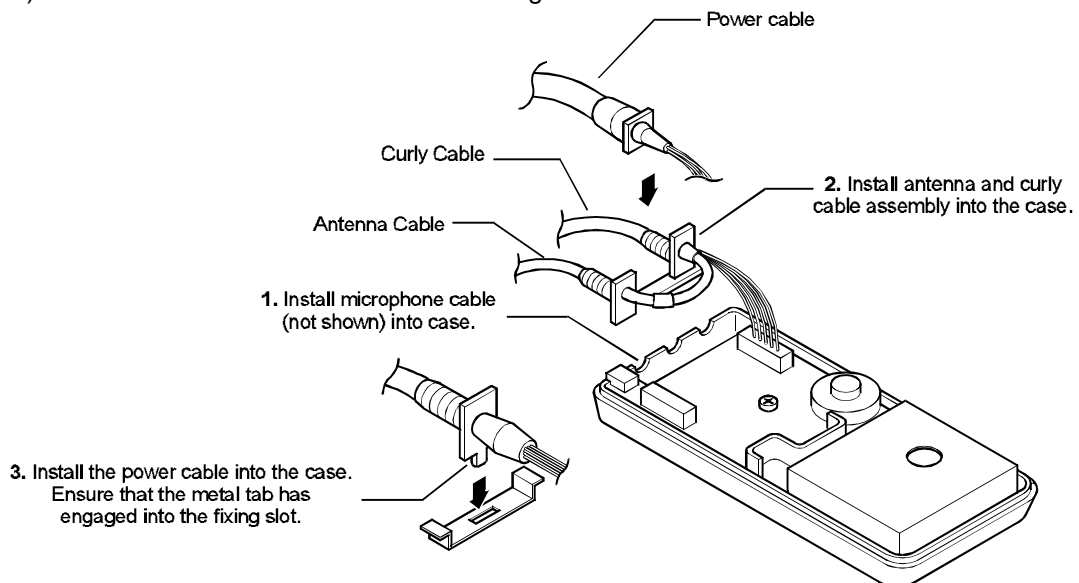

Figure 20: Handsfree cable positioning
2. (Figure 20) Position the cables into the case moulding.